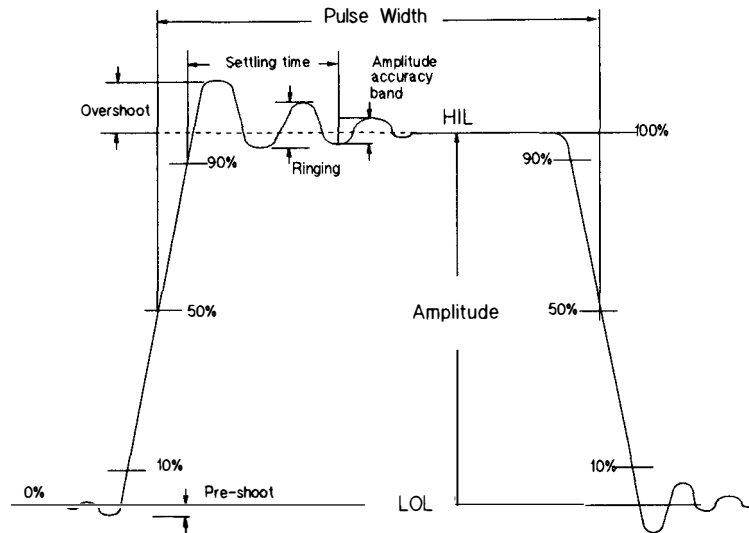

Figure 8-11. Pulse Performance Characteristics
4. Examine the HP 8112A output on the scope display in order to verify that the pulse characteristics do not exceed the specified limits as identified in Figure 8-11.
7. Examine the HP 8112A output on the scope display in order to verify that the pulse characteristics do not exceed the specified limits as identified in Figure 8-11.